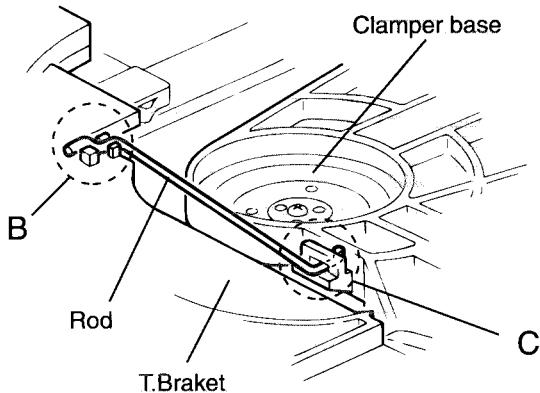
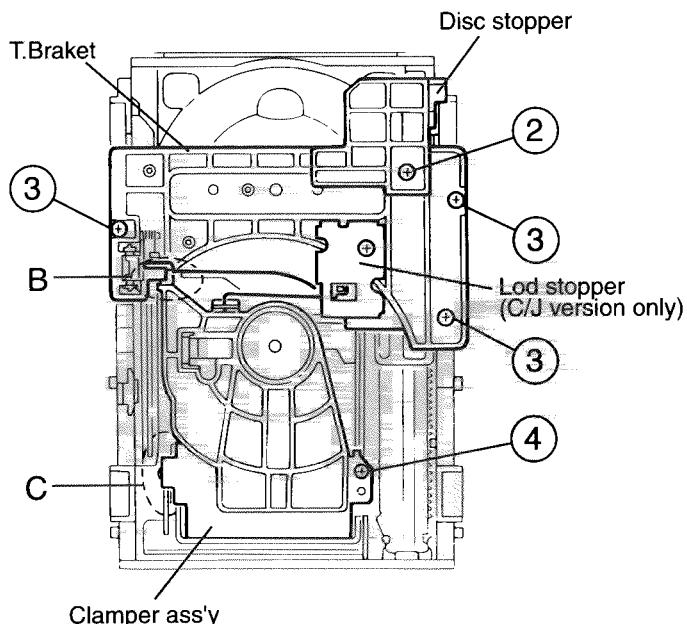

Fig.2
Fig.3
## ■ Removing the CD tray assembly (See Fig.2~4)
4. From the T.bracket section "B" and clamper base section "C", remove both of the edges fixing the rod(See Fig.2 and 3).
(See Fig.3).
2. When the flywheel R is rotated in counterclockwise direction, the playback head will be turned in counterclockwise direction from the position in Fig 2 to that in Fig 3.